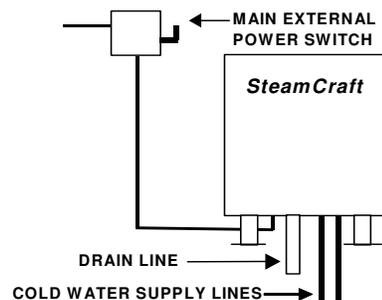

Figure 3-4
- c. A main external disconnect switch should be installed near the SteamCraft as shown in Figure 3-4.
- The fuse or breaker and disconnect switch combination is called the “Main External Power Switch” (Figure 3-4).